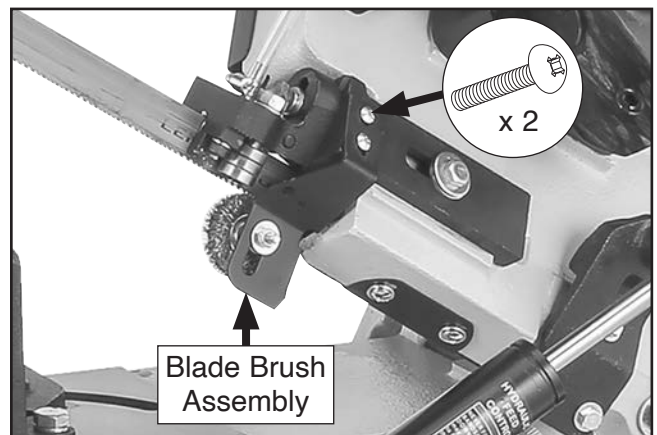

Figure 40. Location of blade brush assembly and screws.
6. Remove (2) screws shown in **Figure 40** to remove blade brush assembly.